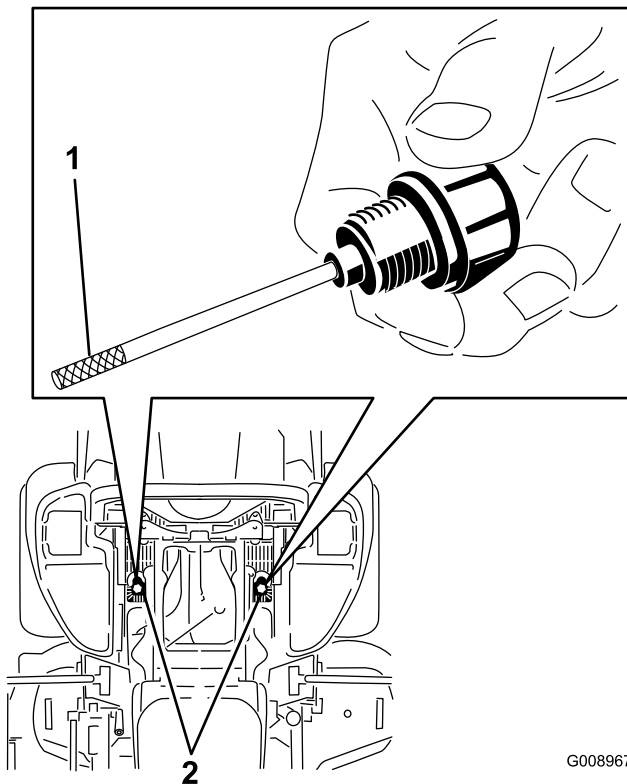

Figure 86
7. Clean the area around the dipsticks of hydraulic system reservoirs (Figure 86).
8. Remove one dipstick from the hydraulic reservoir (Figure 86).
10. Remove the dipstick and look at the metal end (Figure 86). The level needs to be within knurled section. If oil level is low, slowly pour only enough oil into the hydraulic reservoir to raise the level to the knurled section.